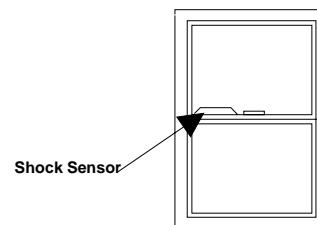

Figure 2. Mounting Options for Door/Window Styles
- ❑ Always mount the shock sensor so that the detector is on the frame and not on glass, solid, or hollow-core doors. See Figure 2 for mounting locations.